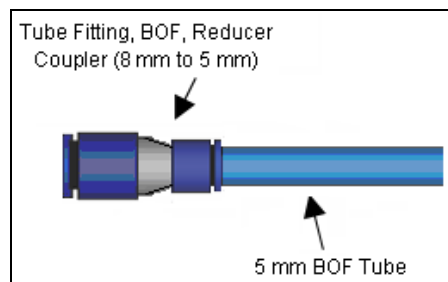

FIGURE 2L1-9. BOF 8mm-to-5mm reducer coupler with 5mm BOF tube.
Step 17 - Insert the 5mm BOF tube into the BOF 8mm-to-5mm reducer coupler and firmly seat the tube into the reducer coupler (see FIGURE 2L1-9). Apply a light load of approximately 22 N (5 lbs) between the tube and the coupler to ensure the coupler is fully engaged onto the tube.